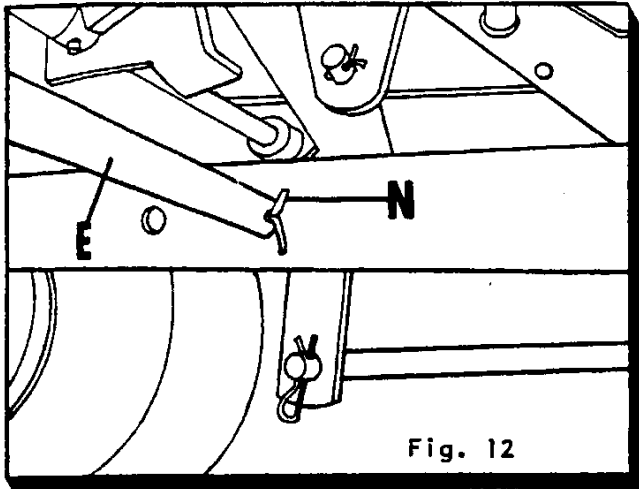

Fig. 12
1. Pull pivot control arm (E) as far to the right hand side of tractor as possible. (See Fig. 12)
2. Secure with cotter pin (N).